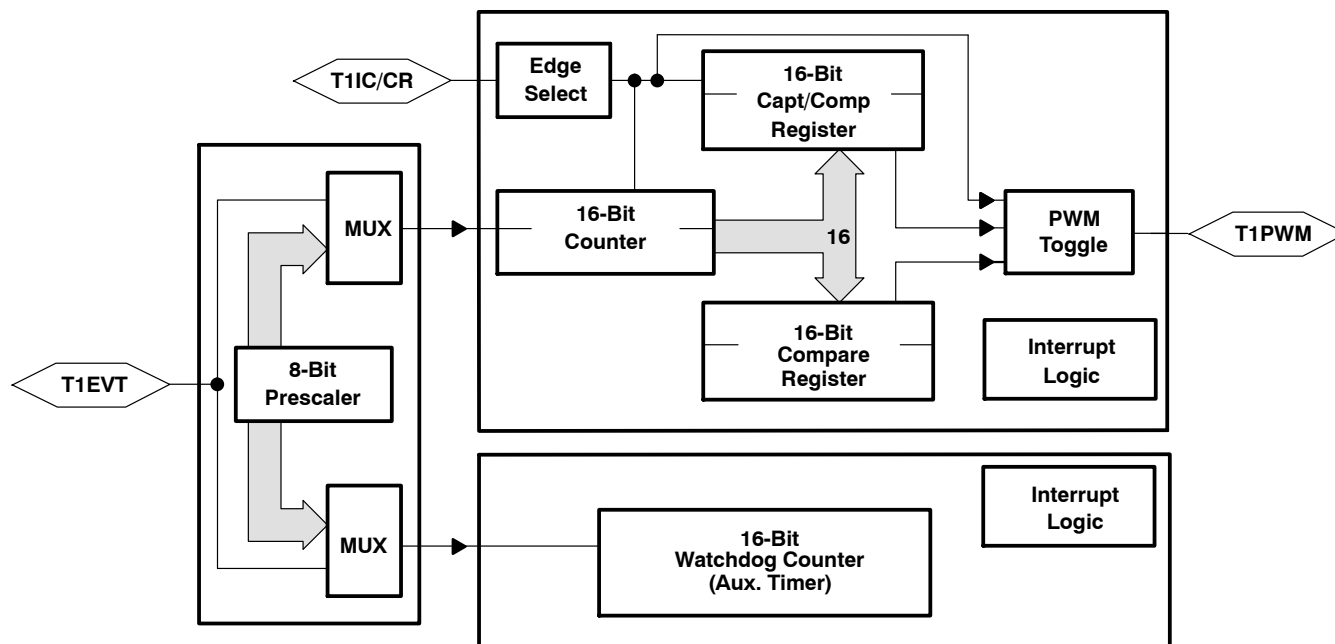

Figure 6. Timer 1 Block Diagram
The programmable timer 1 (T1) module of the TMS370CxBx provides the designer with the enhanced timer resources required to perform real-time system control. The T1 module contains the general-purpose timer and the watchdog (WD) timer. The two independent 16-bit timers, T1 and WD, allow program selection of input clock sources (real-time, external event, or pulse-accumulate) with multiple 16-bit registers (input capture and compare) for special timer function control. The T1 module includes three external device pins that can be used for multiple counter functions (operation-mode dependent) or used as general-purpose I/O pins. T1 module is shown in Figure 6.